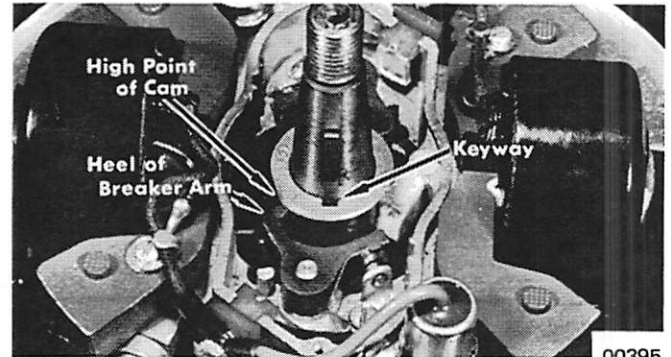

Figure 2. Locating High Point of Cam
- (2) Move stator to position where magneto cam just touches carburetor pickup lever. Leave stator positioned at this point during point adjustments.
- (3) Thread indicator arm on crankshaft and lock in position with flywheel nut.
- (4) Turn crankshaft - not indicator arm - to prevent bending indicator arm.
- (5) Turn crankshaft until breaker arm rubbing block is positioned on high point of cam and adjust breaker point gap to .020" (0.508mm). High point of cam is not at the keyway, but located as shown in Figure 2.